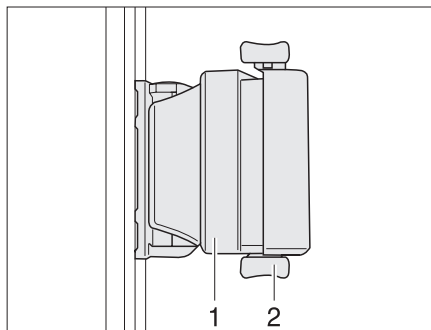

Fig. 35 Sliding window with pressure lock
- ▶ Press the lock (Fig. 35,2) upwards.
- ▶ Press handle (Fig. 35,1) and push it forward or backward at the same time.